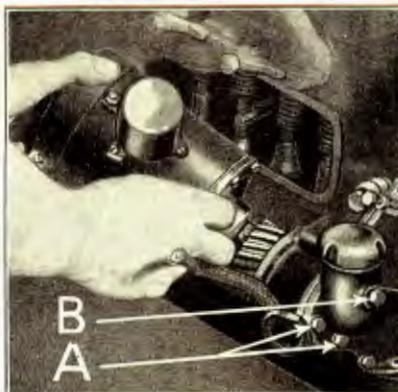

Fig. 131
- 202 Remove generator by running out the two generator mounting bolts (See "A" Fig. 131) and the commutator case spring bolt "B". Generator and generator gasket can now be lifted out of bracket.